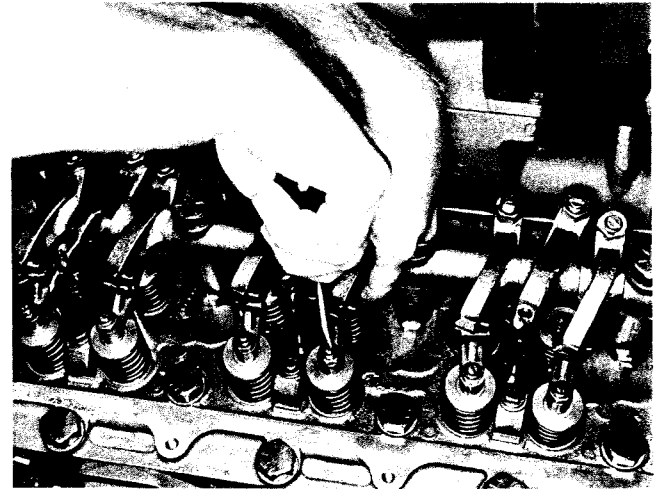

Fig. 2-55, (V51490). Adjusting crossheads
3. Turn down crosshead adjusting screw until it touches valve stem. Fig. 2-55.